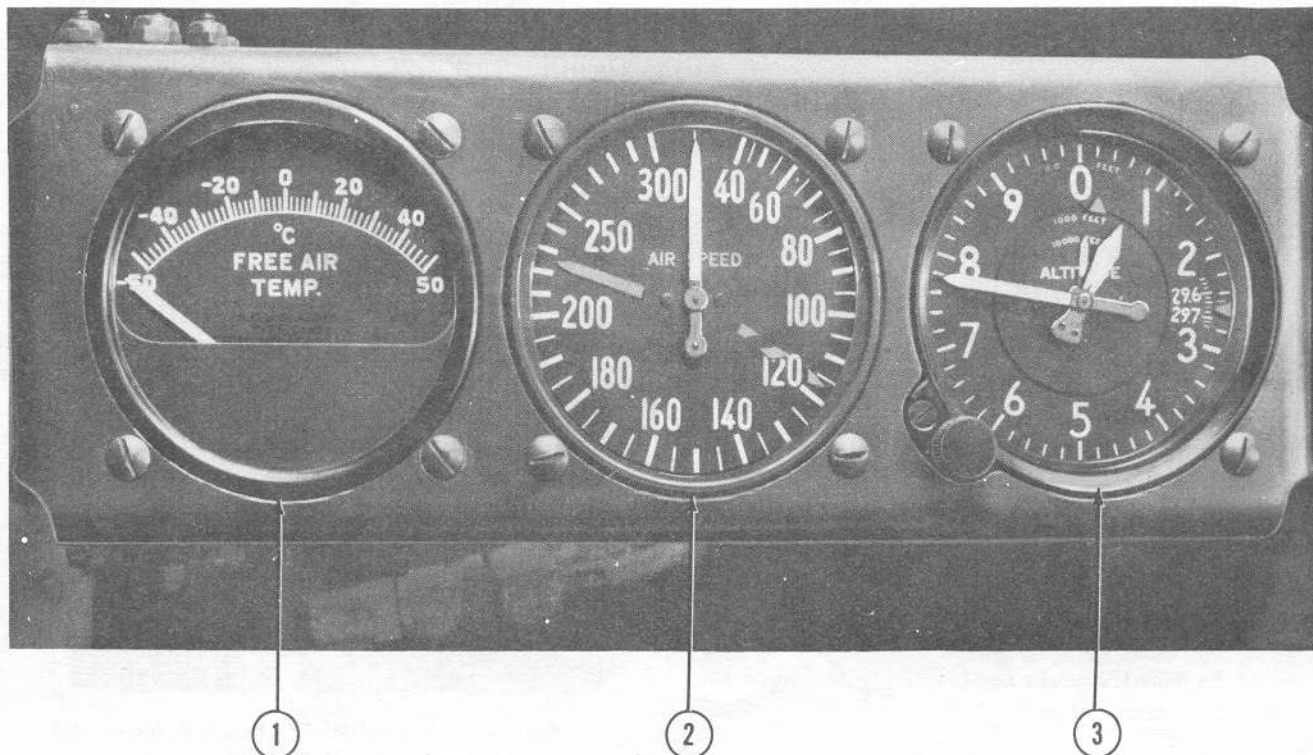

Figure 39—Bombardier's Instrument Panel
- (c) FREE AIR TEMPERATURE INDICATOR. (See figure 39.)
- (d) ALTIMETER. (See figure 39.)